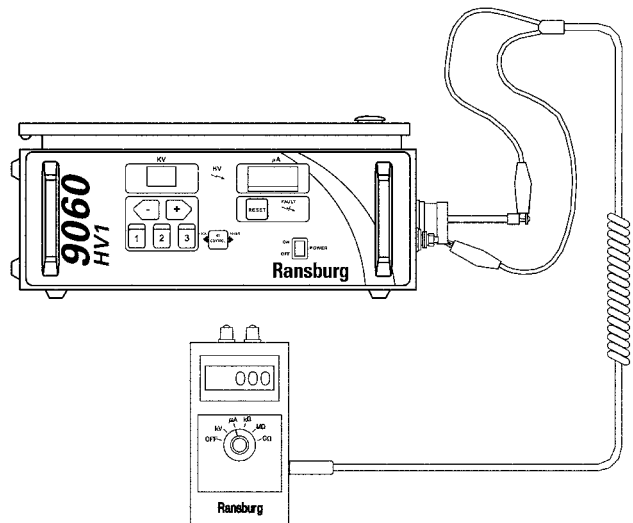

Figure 5: Testing SCI on Power Supplies
- Set the meter dial to the μA scale (see Figure 5). Plug the probe with two (2) alligator clamp leads into the side of the meter. Ensure the meter reads zero. If it does not read zero, consult the factory for repair of the meter.
1. Set the meter dial to the μA scale (see Figure 5). Plug the probe with two (2) alligator clamp leads into the side of the meter. Check the meter calibration by touching the metallic ends of the two (2) probes together. If the meter reads zero, the meter is in calibration. If it does not read zero, verify the continuity of the probe assembly and re-perform the check. If the meter still does not read zero, consult the factory for repair of the meter.